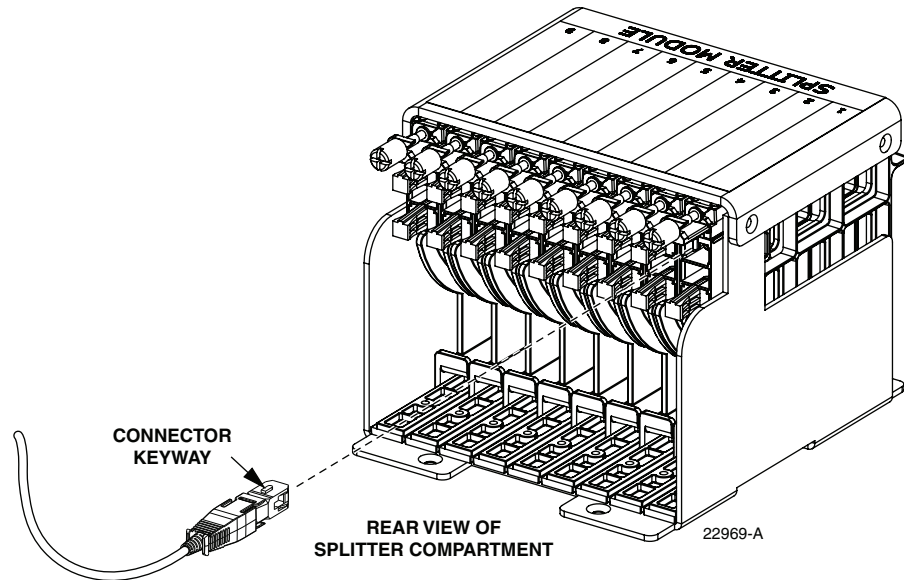

Figure 40. Feeder Cable Connector - Typical Compartment Shown
3. Remove the corresponding feeder cable connector(s) from the rear of the splitter compartment as shown in Figure 40.
3. Remove the feeder cable connector(s) from the rear of the splitter compartment (see Figure 40).